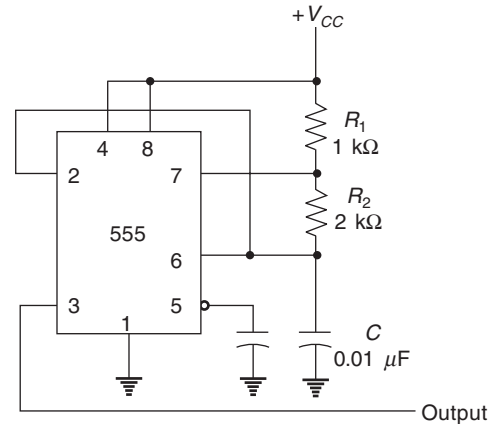

Fig. 12.72
39. A 555 timer is configured to run as astable multivibrator as shown in Fig. 12.72. Determine its frequency.